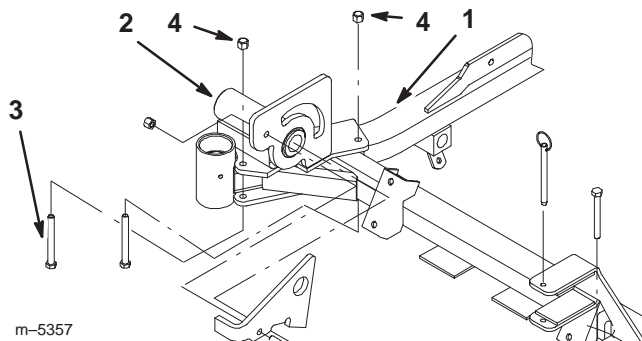

Figure 2
1. Place the Z-Stand hub on the right front frame as shown in figure 2.
2. Install Z-Stand hub to frame with 2 bolts (3/8 x 3-1/2 in.) and 2 lock nuts (3/8 in.) (Fig. 2).
Note: Install bolts as shown in figure 2.